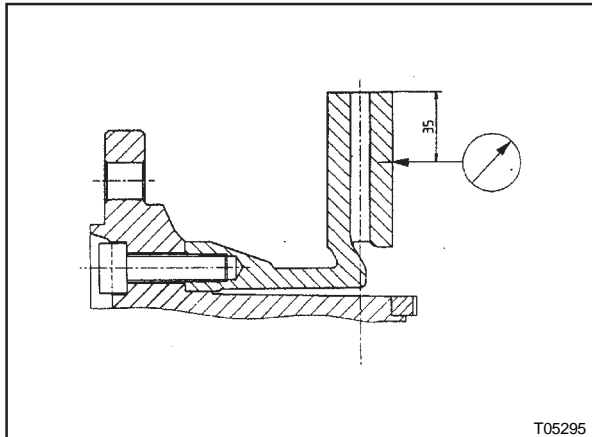

Figure 5: To check brake disc run-out
- **To check brake disc run-out (see Figure 5)**